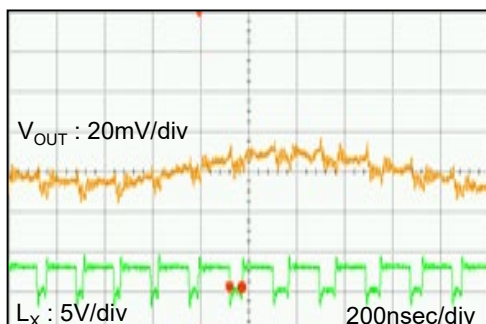
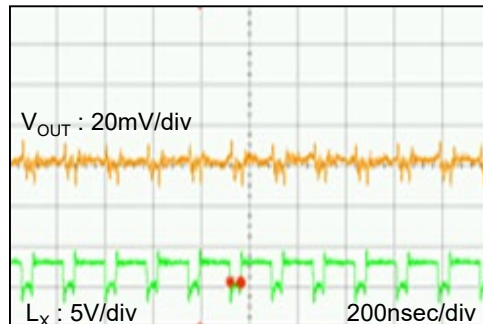

Fig. 15-1 Insufficient C_L ($C_L = 10\ \mu\text{F}$)
Fig. 15-2 Sufficient C_L ($C_L = 20\ \mu\text{F}$)
15. If the capacitance value is not sufficient by degrading C_L due to the low temp. condition and DC bias feature, the duty cycle might not be stable. Add capacitance value for C_L if necessary. (Refer to Fig. 15-1, Fig. 15-2)